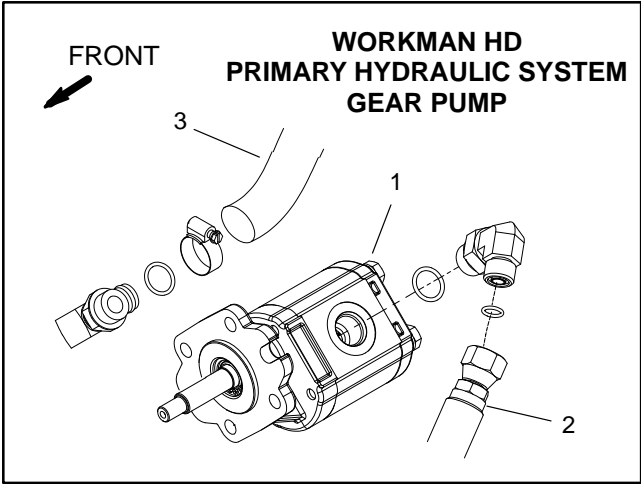

Figure 19
3. With the engine off, clean hose fitting and disconnect the pressure hose from the gear pump (Fig. 19). Install tester with pressure gauges and flow meter in series between the gear pump and the disconnected hose. **Make sure the tester flow control valve is open.**